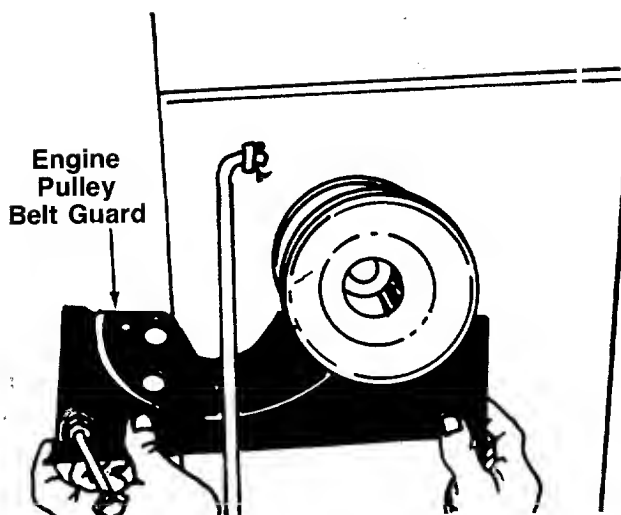

FIGURE 20.
6. Remove the engine pulley belt guard by slipping it back and to the right. See figure 20.